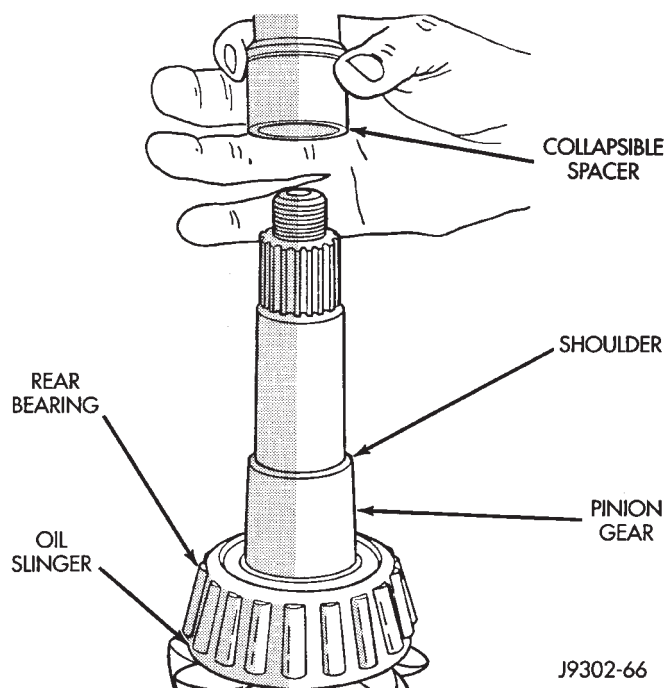

Fig. 29 Collapsible Spacer
- (8) Remove the collapsible preload spacer (Fig. 29).